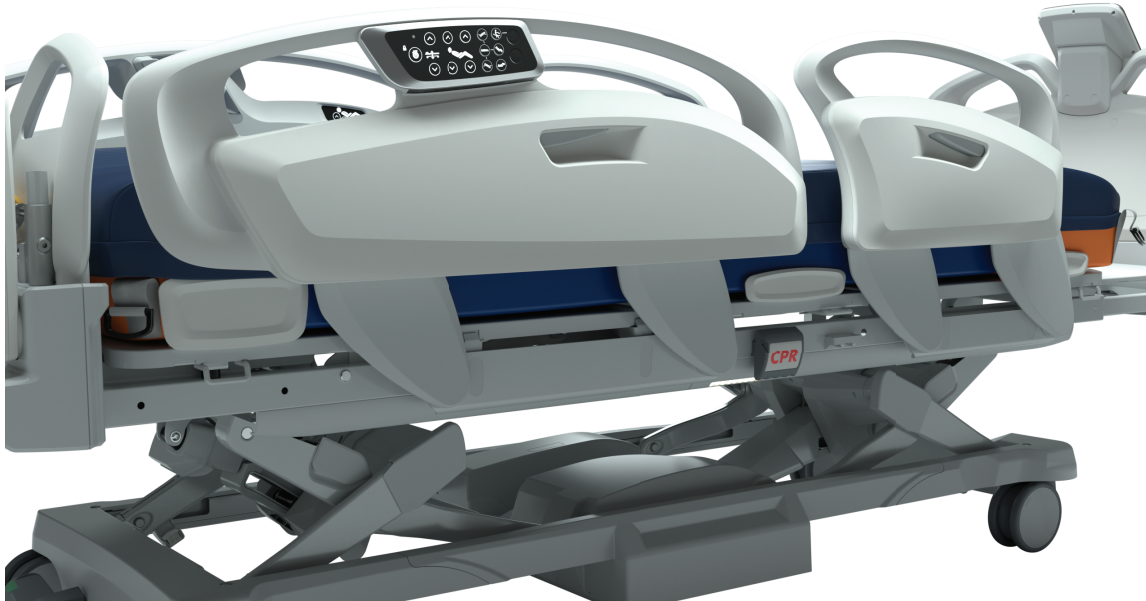

Figure 17 – Siderail highest position
- To raise the siderail to the highest position, press and hold the siderail release (N) (*Product illustration* (page 11)) and rotate the siderail up from either the lowest position or intermediate position (Figure 17).